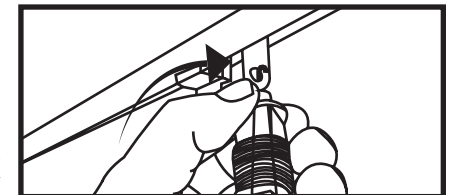
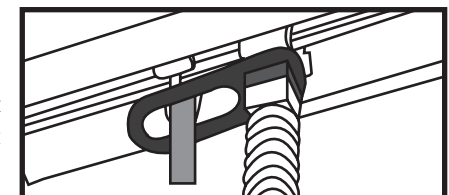

Figure 13; Attach to Vertical Blinds
Figure 13.1; Proper Positioning
Pull down on the VERTICAL BLIND MOUNT'S (C) bellows to expose the SMART WAND'S™ ATTACHMENT HOOK (a). Hook the SMART WAND'S™ ATTACHMENT HOOK (a) onto the existing blind's twist gear stem [Fig. 13]. Release the blind mount to allow the bellows to extend upwards toward the header, covering the attachment hook. Be sure the slat attachment is inserted through the slot in the blind mount [Fig. 13.1].